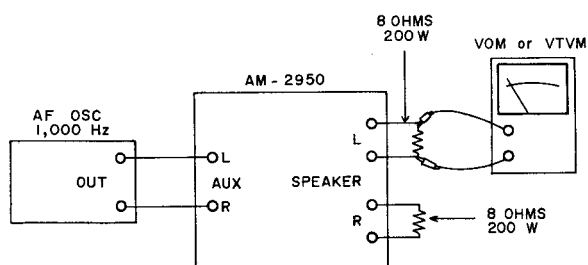

Fig. 17 Level Meter Indication Adjustment Instrument Connection
- 1) Connect an AF oscillator to the AUX jacks on the rear panel as illustrated in Fig. 17.